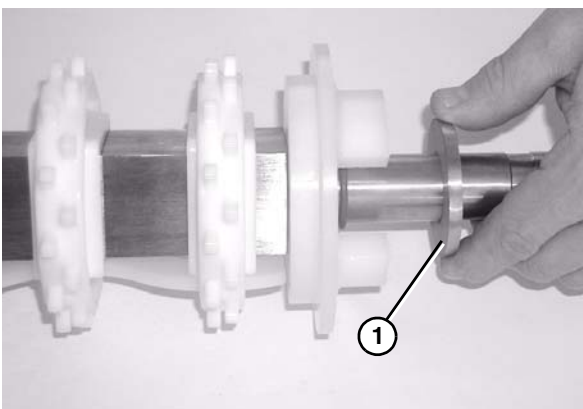

Figure 78
6. Install washer (**Figure 78, item 1**) onto spindle shaft.